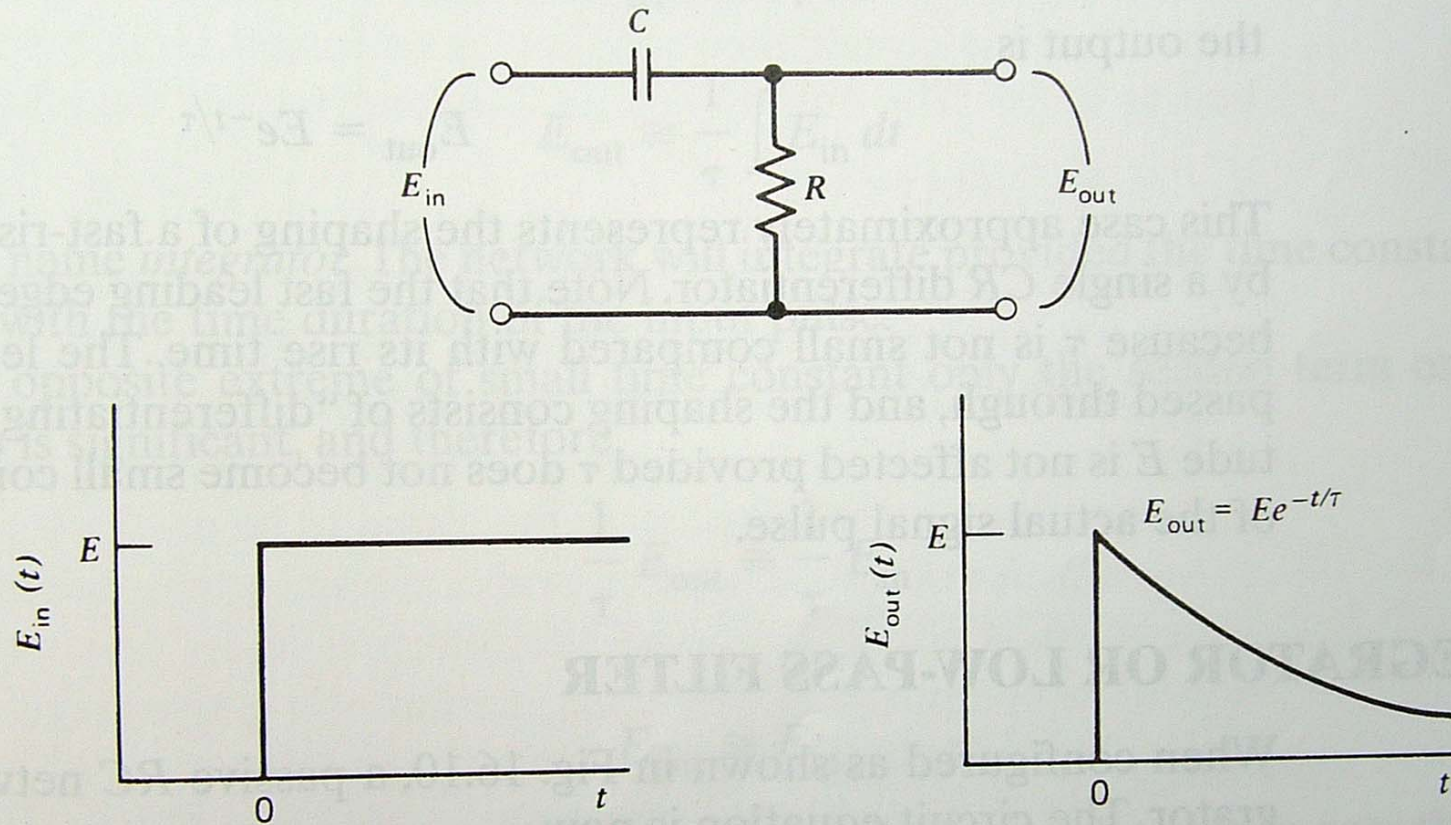

Figure 16.9 A high-pass CR filter or differentiator network. The response to a step function input is illustrated.
- Fig. 16.9 illustrates the results of a CR filter to a step function, an exponential decay; the circuit configuration is also listed.